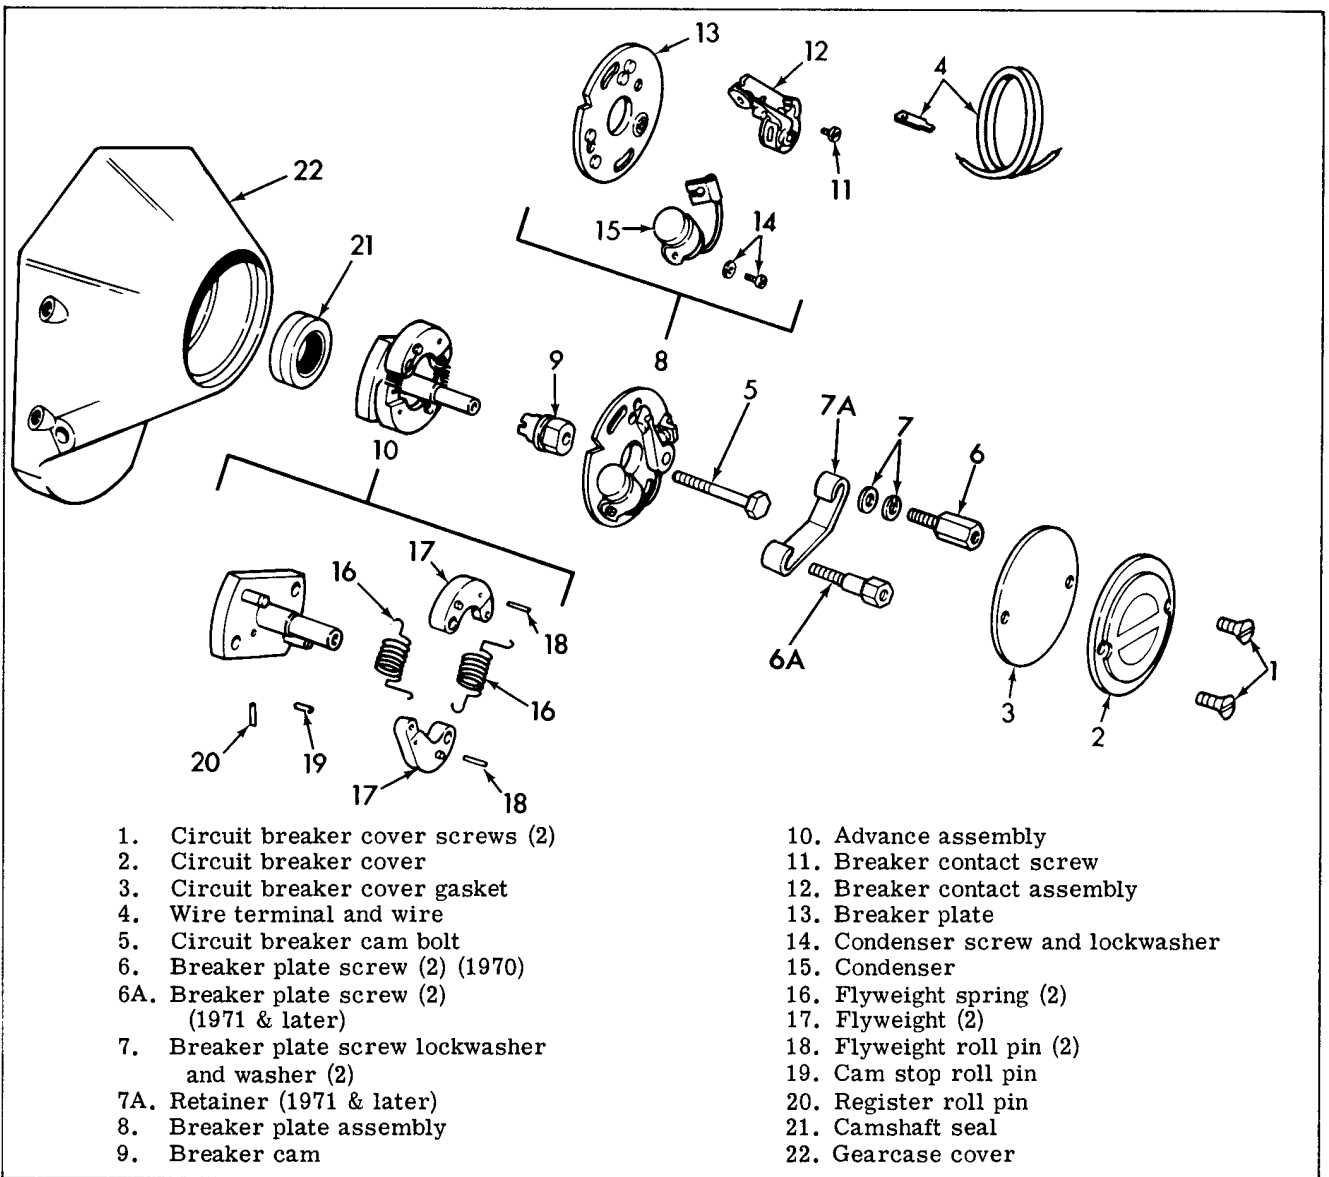

Figure 5-17. Circuit Breaker - Exploded View
### REMOVING CIRCUIT BREAKER PARTS (Figure 5-17)
## INSPECTING AND REPLACING PARTS (Figure 5-17)
Examine the coil to circuit breaker low tension wire (4, Figure 5-17) for brittle or cracked insulation and broken strands and replace if defective.
**IMPORTANT:** Circuit breaker point gap should be within .016 to .020 in. limits on both cam lobes. If not within this range, the cam (9, figure 5-17) or advance assembly (10, figure 5-17) may be assembled incorrectly on camshaft, or parts may be damaged, causing eccentric operation. Generally, loosening bolt (5) and repositioning advance assembly (10) toward widest point gap will equalize gap satisfactorily.